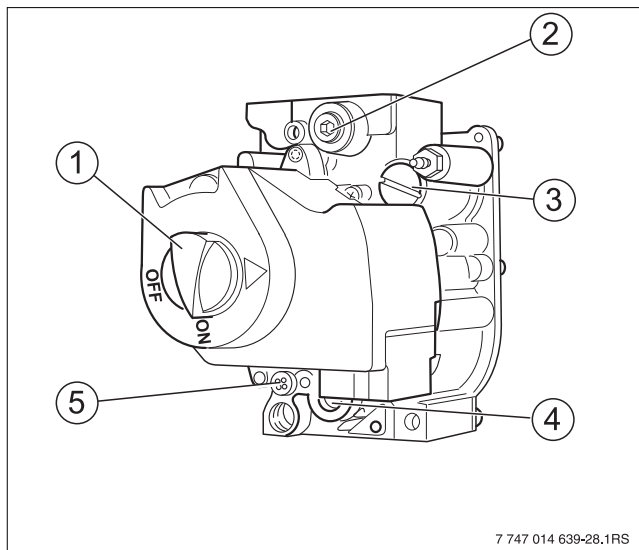

Fig. 23 Gas valve
11. Check nozzle pressure. Set the orifice pressure according to Table 11 while the boiler is operating. To do so, remove the safety screw for adjusting the orifice pressure (→ Fig. 23 [3]) from the gas valve. Turn the adjustment screw clockwise to increase the orifice pressure. Turn the adjustment screw counterclockwise to decrease the pressure.
The adjustment screw is located behind the safety screw for the pilot orifice pressure setting (→ Fig. 23, [5]).
16. Remove the safety screw for the pilot orifice pressure setting (→ Fig. 23, [5]).
17. After adjustment, tighten the safety screw for the pilot orifice pressure setting (Fig. 23, [5]) again.
If the main burner flame is too weak, yellow or goes out, turn the ON/OFF knob (→ Fig. 23, [1]) on the gas shutoff valve clockwise to the **OFF** position. Close the gas shutoff valve, disconnect heating system from the power supply and inform the customer service technician or gas supply company.